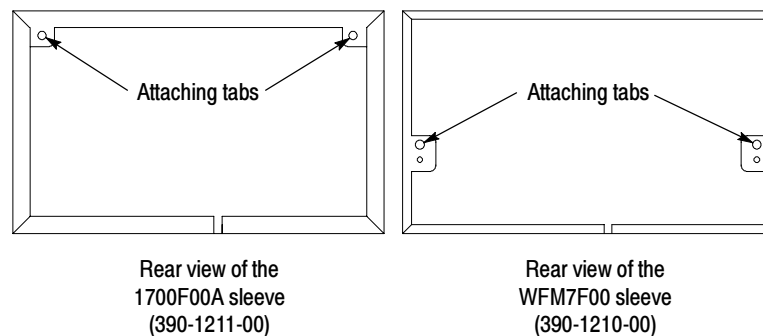

Figure 6: Rear view of the two sleeves, showing the attaching tabs and screws
1. Referring to Figure 6, choose the appropriate sleeve in which to install your instrument:
- For the WFM7F00, insert the screws through the rack adapter, through the tabs on the sleeve (Figure 6), and then into the instrument rear panel.
- For the 1700F00A, insert the screws through the holes on the top right and left of the sleeve (Figure 6) and into the instrument rear panel. The screws do not attach to the rack adapter; this sleeve is held in place by the button on the inside front of the rack adapter.